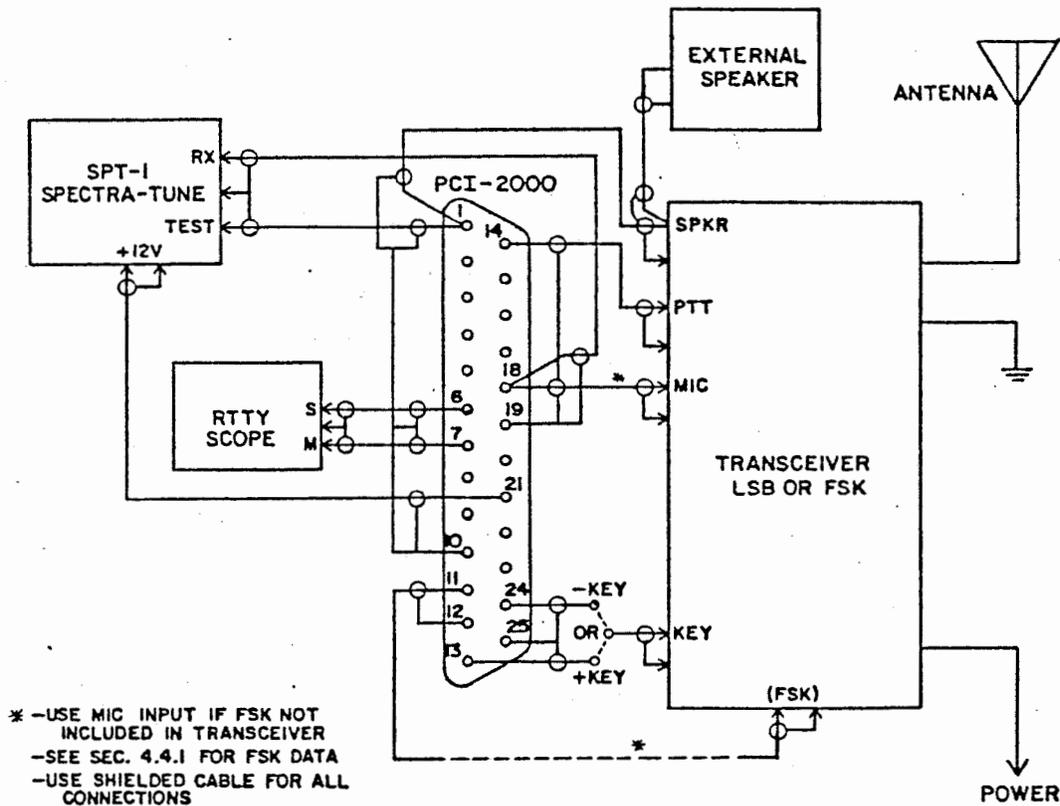

FIGURE 3. DIRECT RADIO CONNECTIONS
case, use a shielded, multi-conductor cable with No. 24 or 26 wire size for the system cable. The simplest hook-up involves only one 5-conductor shielded cable (Ground, AF IN, AF OUT or FSK, PTT, and CW KEY). A second 2-conductor shielded cable is also desirable for connection to a tuning indicator or RTTY scope. A typical radio system direct cable connection is shown in Figure 3.
The RTTY scope should be connected to the MARK and SPACE outputs to give the normal X-Y ellipse presentation. Conversely, any standard oscilloscope with separate vertical (Y=SPACE) and horizontal (X=MARK) can be used as a tuning indicator. The MARK and SPACE outputs of the PCI-2000 produce audio signals with approximately 10V P-P amplitude when the input signal frequencies match those of the discriminator filters. Some older vacuum tube type oscilloscopes may require additional amplification for the horizontal (X) axis input. Be sure to use shielded cables for all tuning scope connections. Typical scope connections are shown in Figures 3 and 4.
Be sure to use shielded cables for all audio connections to the SPT-1. Connections to the SPT-1 are shown in Figures 3 and 4.